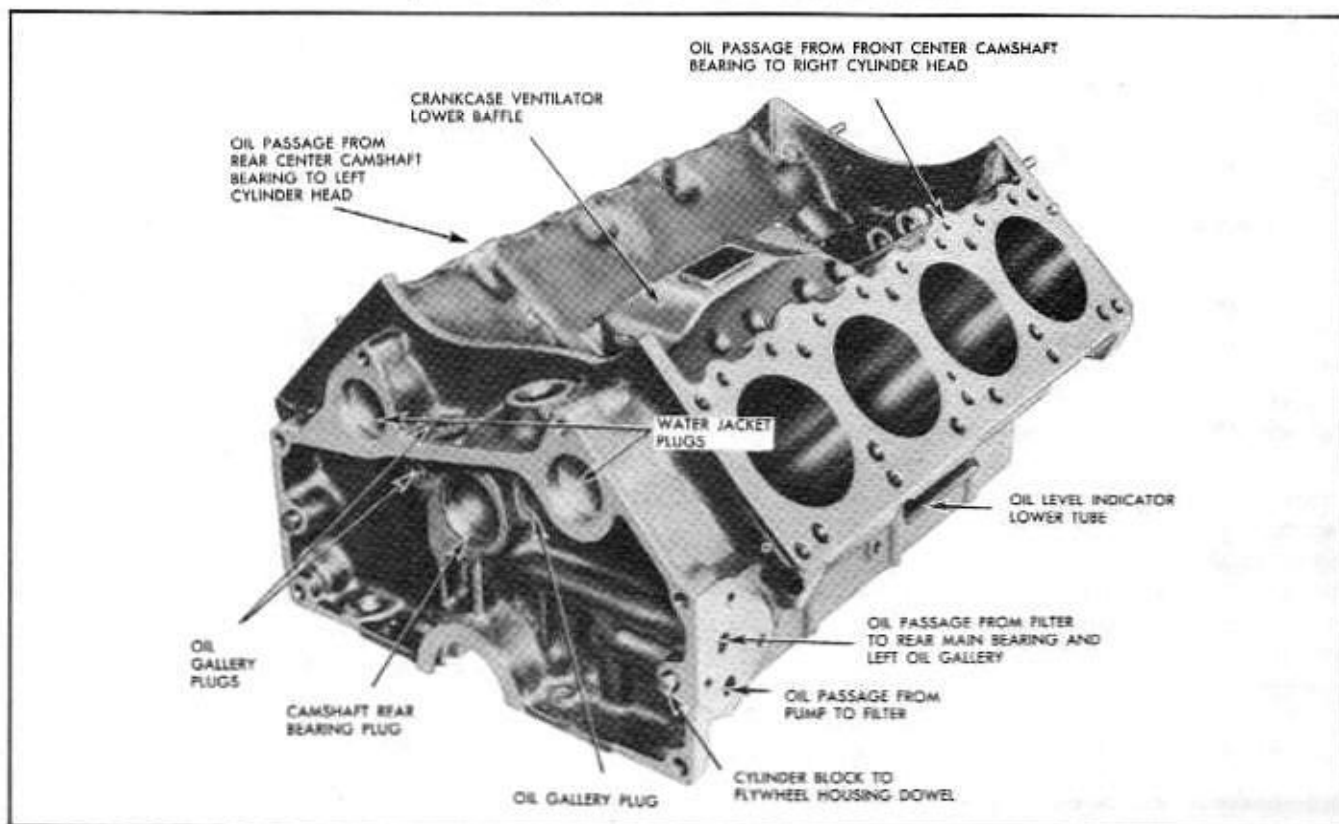
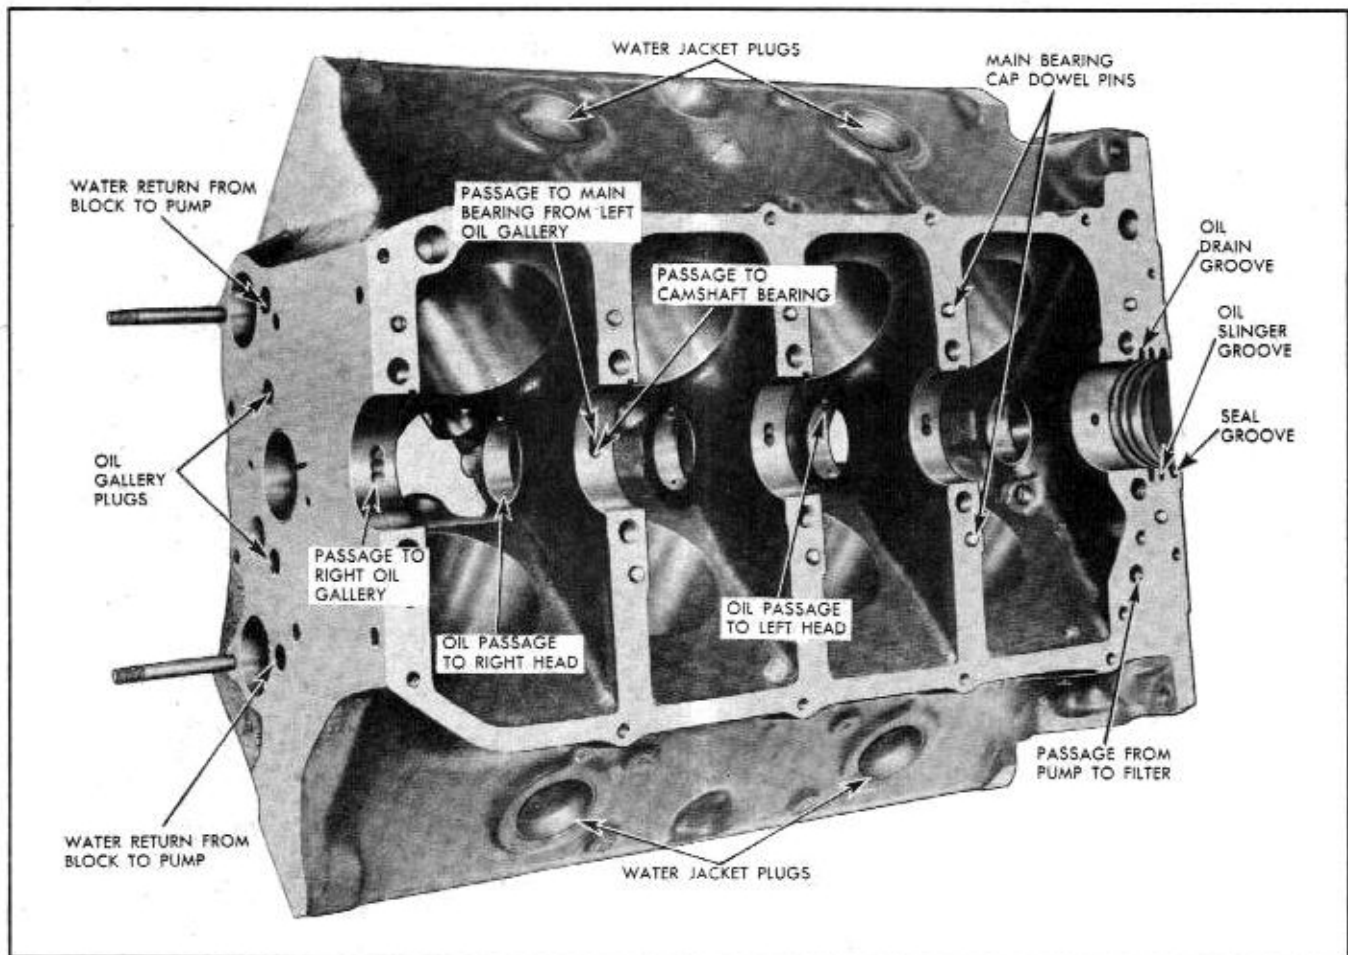

Fig. 6-55 Cylinder Block—Viewed from Right Rear
Fig. 6-56 Cylinder Block—Viewed from Bottom
4. Flush out all oil passages in the block (refer to "Oil Circulation", page 6A-4) with suitable pressure type cleaning equipment using tri-sodium phosphate and hot water, steam, or equivalent cleaning solvent. **NOTE:** The oil passages (Fig. 6-55) in the block which supply oil from the front center and rear center camshaft bearings to the right and left cylinder heads respectively are considerably larger than the oil holes in the camshaft bearings (Fig. 6-56). Due to this fact, sludge may collect in the passages above these bearings and may subsequently be forced into the oil galleries of the cylinder head, causing possible restriction of the oil passages in the rocker arm studs. For this reason these passages should be thoroughly cleaned and inspected.
see that passage from oil pump to filter is open (Fig. 6-56).
b. Check passage from filter outlet to rear main bearing by inserting wire in oil filter outlet passage and using pen light to see that wire is visible in passage to rear main bearing (Fig. 6-55).
c. Visually check passage from each main bearing to corresponding camshaft bearing (Fig. 6-56).